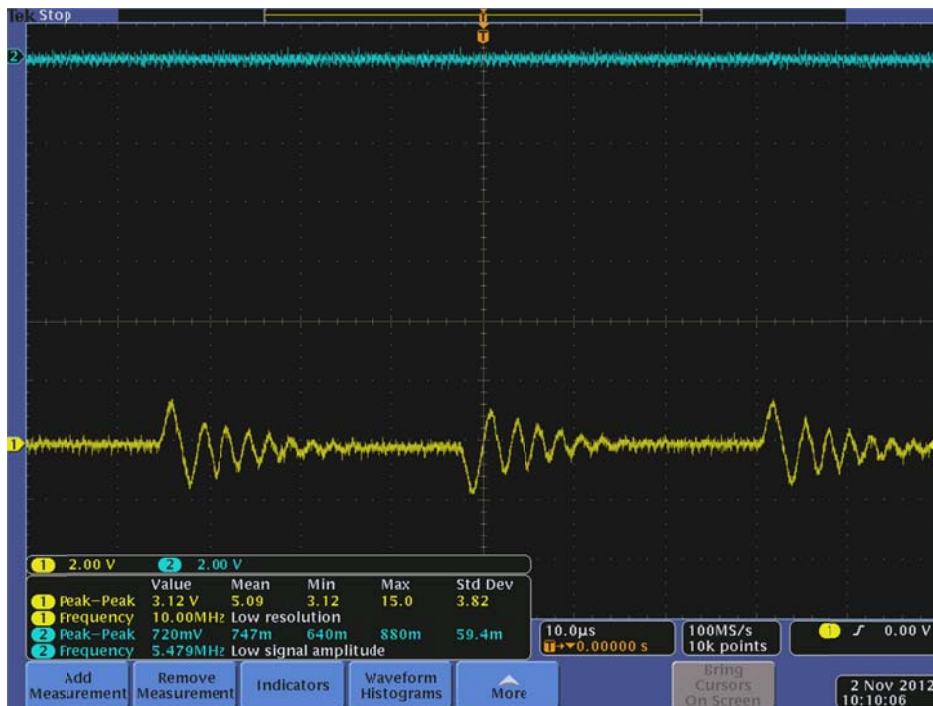

Figure 12 Correctly Adjusted Capacitor Waveform with LED Unplugged
- Adjust C3 the variable capacitor “Null Tune CAP”, until the square wave is as minimal as possible without flat lining. Once the square wave is as small as possible, then adjust R6 “Null Tune POT.” until the ringing is minimized as shown in Figure 12.